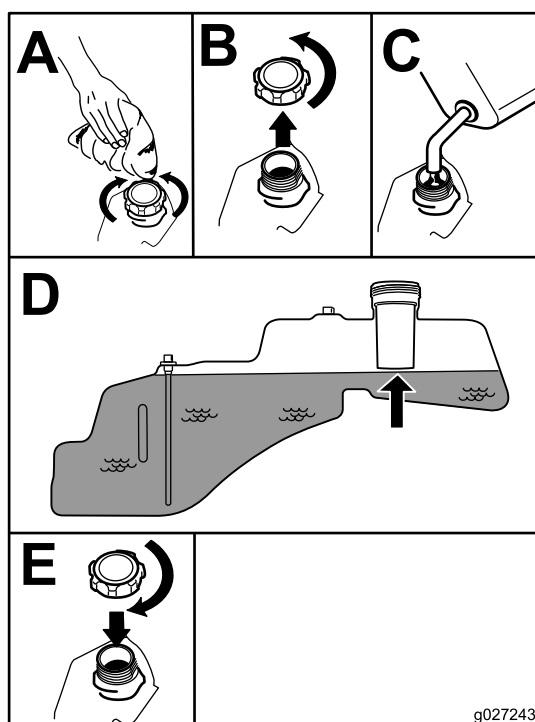

Figure 7
**Note:** You can use the fuel window to verify the presence of gasoline before filling the tank (Figure 7).